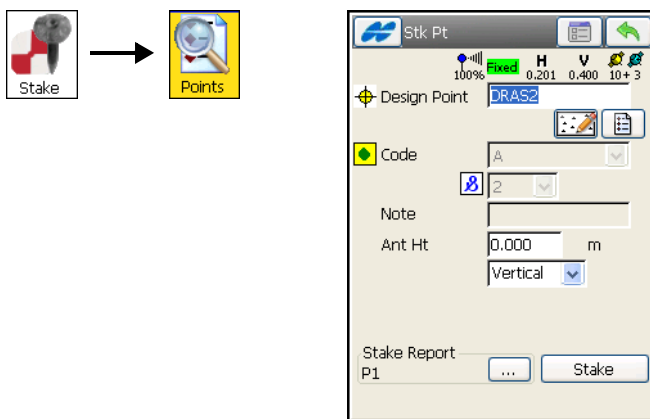

Figure 9-2. Stakeout Point
1. Tap **Stake ▶ Points**. The *Stakeout Pt* screen displays. See Figure 9-2 on page 9-2.
- Tap the **Stake** button (Figure 9-2 on page 9-2).